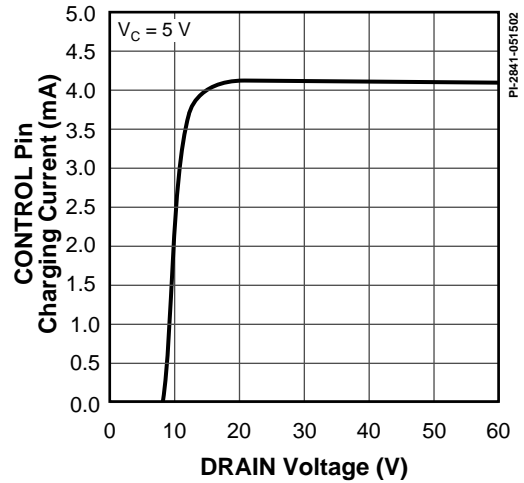

Figure 42.  $I_c$  vs. DRAIN Voltage.
- D. It is possible to start up and operate *DPA-Switch* at DRAIN voltages well below 16 V. However, the CONTROL pin charging current is reduced, which affects start-up time, auto-restart frequency, and auto-restart duty cycle. Refer to Figure 42, the characteristic graph on CONTROL pin charge current (IC) vs. DRAIN voltage for low voltage operation characteristics.